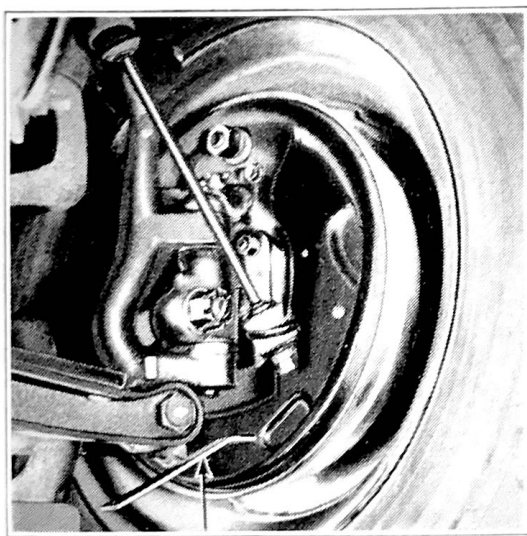

Figure 50
4. On each wheel, with a screw driver inserted through slot in brake backing plate, expand shoes against drum with adjusting screw, Fig. 50, by moving outer end of screw driver toward center of backing plate until a drag is noted when wheel is turned by hand.